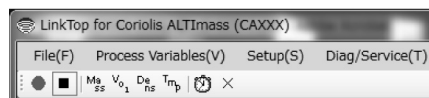

Fig.18
- ① Click "Chart and Recording" from the menu and select "Active". Then a tool bar as shown in Fig. 18 will appear underneath the menu.